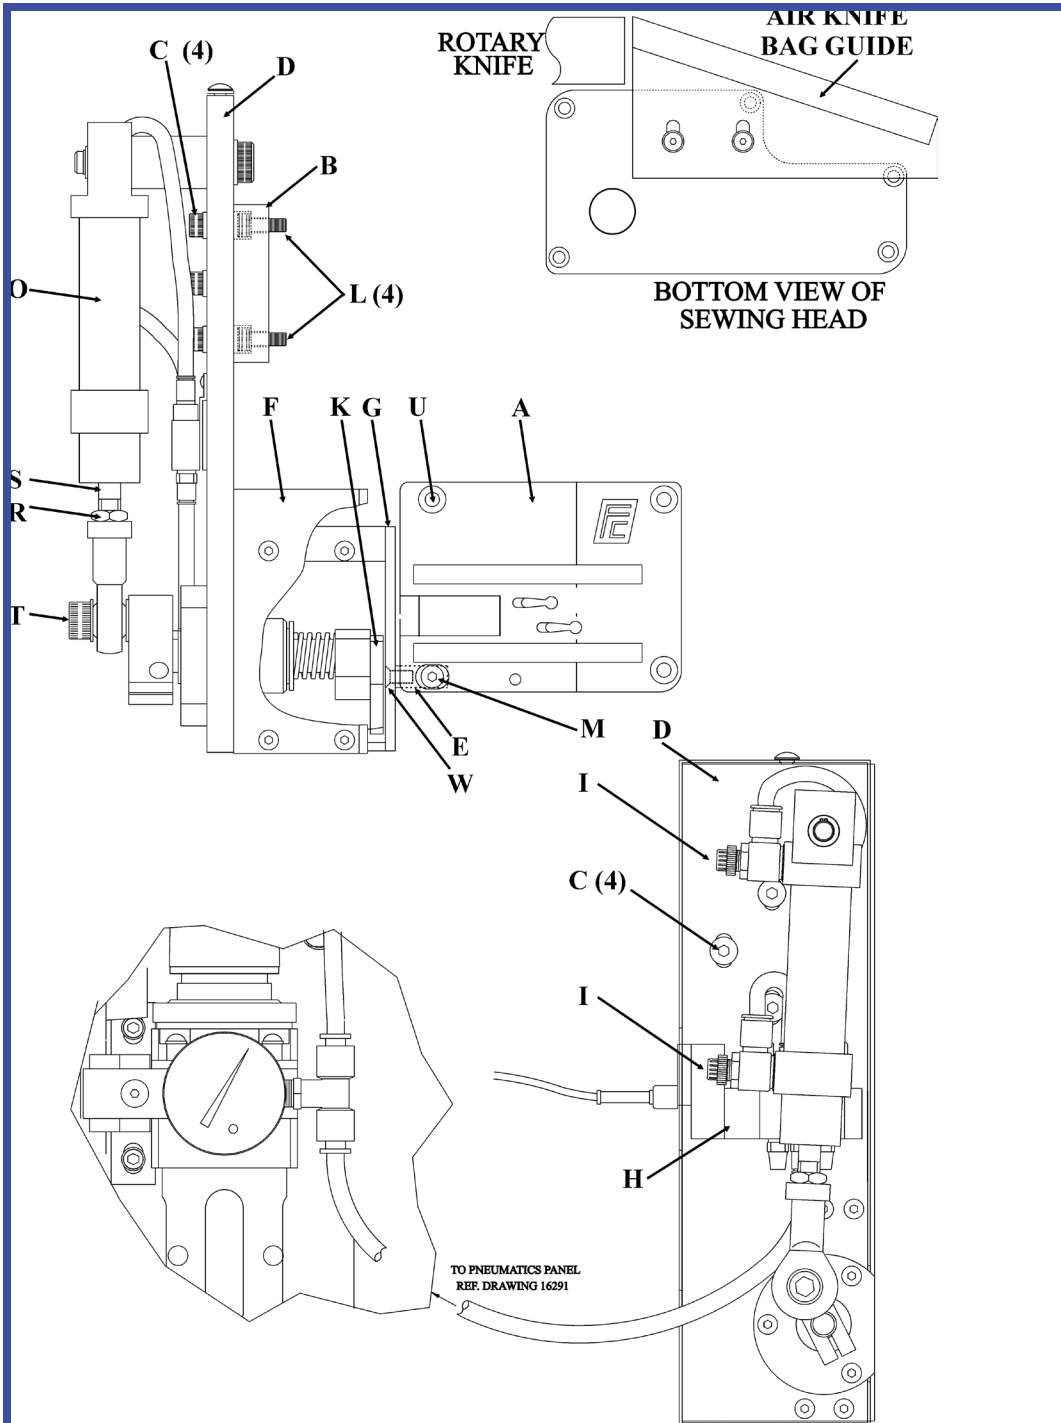
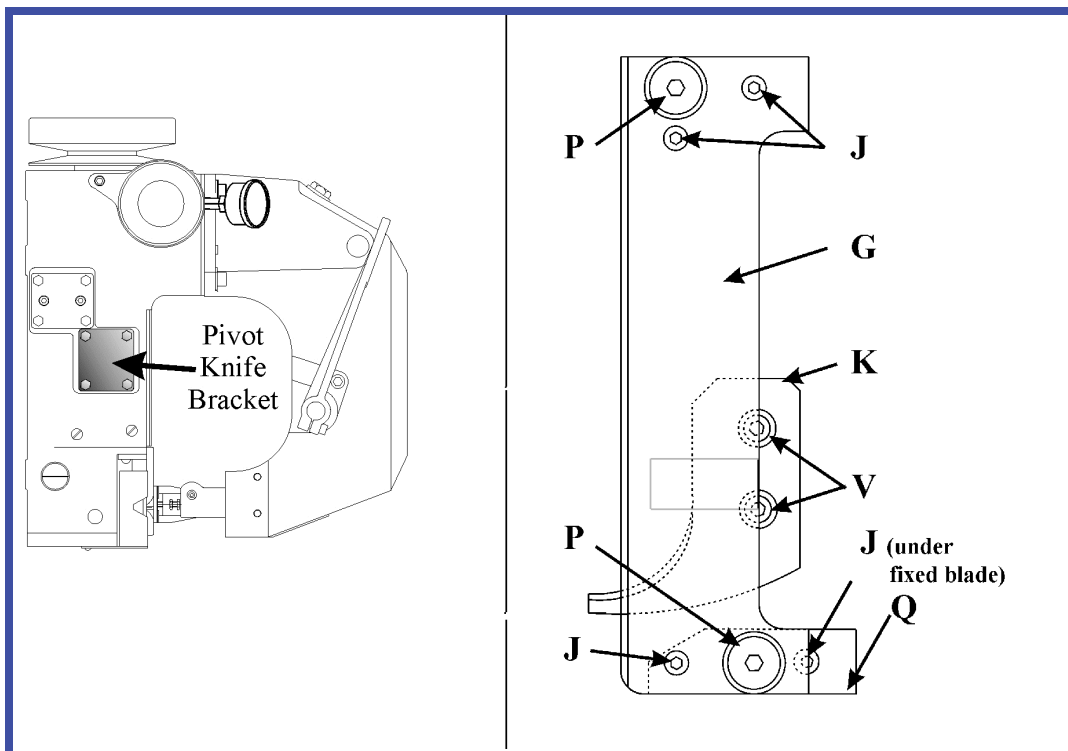

Figure 4.6 ROTARY AIR KNIFE
Figure 4.7 PIVOT BRACKET AND KNIFE BLADES.
1. Refer to Figure 4.6. Mount the modified throat plate (A) to the sewing head using the original three flat head screws through three of the holes (U).
2. The mounting block (B, Figure 4.6) is mounted to the outside face of the pivot knife bracket (Figure 4.7) on the side of the housing. The four original screws are removed and replaced with four 10-32 x 7/8" cap screws (L, Figure 4.6).
3. The knife assembly is mounted to the block (B) with four M6 metric cap screws (C) through the slotted holes in the support plate (D). NOTE: The air cylinder (O) will have to be rotated to gain access to all four screws (C). The cylinder (O) can be moved by removing cap screw (T). The slots provide for vertical adjustment for the assembly. These screws only need to be finger tight initially.
4. Move the throat plate mounting block (E, Figure 4.6) until it touches the back of the throat plate. Move the assembly up and down until the tapped hole in the mounting block (E) lines up with the countersunk slot in the throat plate (A). Secure with an M4 metric flat head screw (M).
5. Tighten the four M6 socket head cap screws (C) and replace the air cylinder (O), with cap screw (T).
6. Remove the side cover (F) and tighten the M4 metric flat head screw (W) that secures the mounting block (E) to the fixed knife blade (G). (Figure 4.6 and 4.7)
7. Replace the cover (F).
2. If the thread is not cut off cleanly, it is usually the result of a dull knife set or a maladjusted fixed knife blade (G). (Figure 4.7)
3. Adjust the flow control valves (I) on the air cylinder (O) to provide a smooth operation of the air knife. (Figure 4.6) Turning out (counterclockwise) the adjustment screw on the valve will increase the speed of the air knife. The valves (I) are adjusted at the factory for maximum airflow and the fastest cut.
4. To replace the blades, first remove the side cover (F), (Figure 4.6). Remove screws P and W to remove the fixed blade (Figure 4.6 and 4.7). Remove screws V to remove the movable blade (K). Replace the old blades with new. (#31112 and #31113)
5. The cutting edges of the fixed blade (G) and movable blade (K) must contact each other. If they do not, the cut edges of the thread will be frayed, or the thread will not be cut completely through. The four M4 set screws (J) provide this adjustment. (Figure 4.7) Three are in the fixed blade (G), and one is in the lower fixed blade bracket (Q). Adjust the screws (J) until there is contact between the cutting edges. There may be a small gap along the back edges of the two knife blades as a result.
7. The tip of the movable knife blade (K) must not extend beyond the cutting edge of the fixed knife blade (G). If it does, loosen nut (R) on the air cylinder (O). The air cylinder (O) must be in the retracted position as shown in Figure 4.6. Screw the shaft (S) of air cylinder (O) in or out until the tip of the movable knife is retracted beyond the cutting edge of the fixed blade (G).